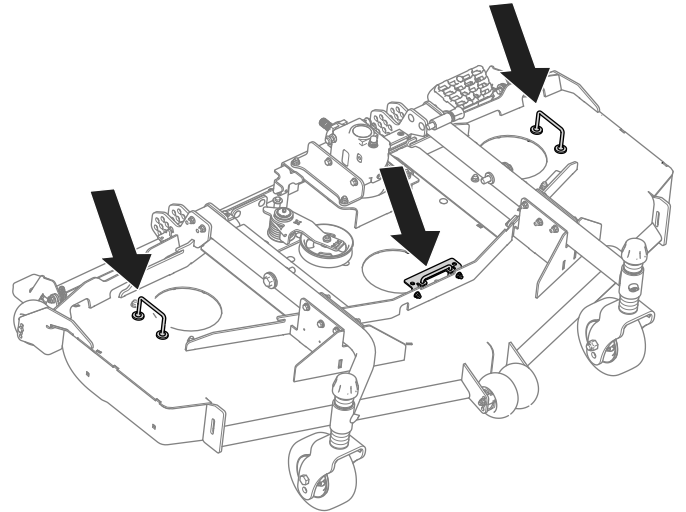

Figure 6
1. Remove the existing belt-cover brackets (Figure 6) from the cutting unit.